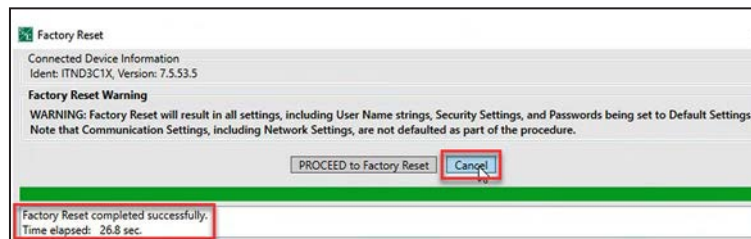

Figure 52. The Factory Reset completed successfully message.
STEP 6. When the **Factory Reset** procedure is completed, click on the **Cancel** button to complete the procedure. See Figure 52.